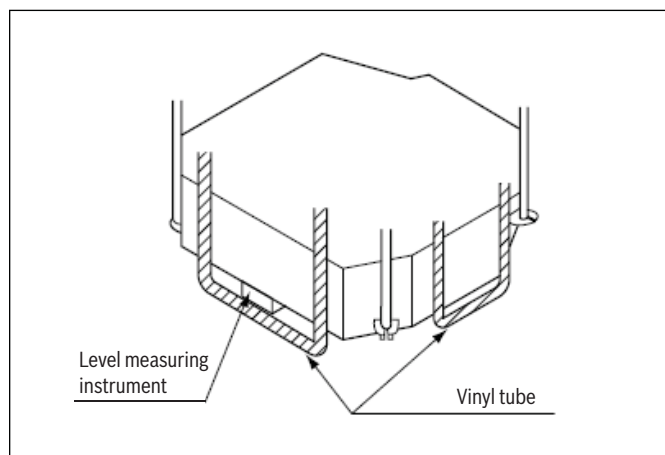

Figure 13
- ▶ Check if the unit is levelled at all four corners with a level measuring instrument or a water-filled vinyl tube as shown in figure 13.